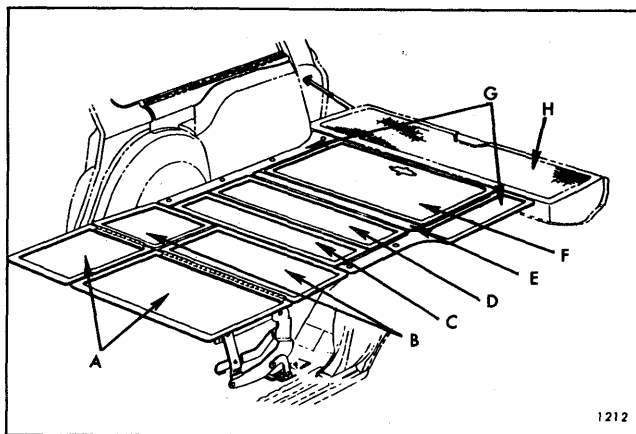

Fig. 10-67—Folding Seats and Rear Compartment Floor Panels "A-65" Style Station Wagon
Figure 10-67 identifies the major load floor panels on the "65" Style Skylight station wagon.
1. Raise folding third seat. Remove rear compartment left side panel. (See Fig. 10-67).